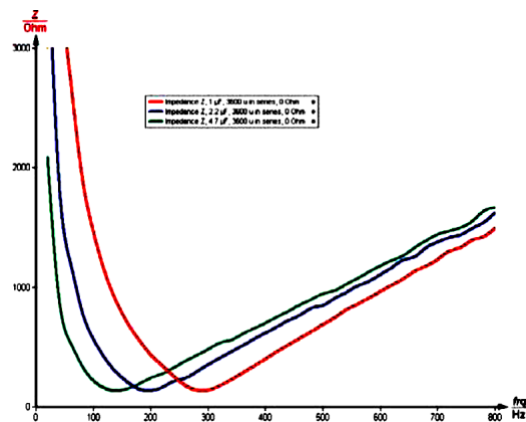

Figure 2.36
- 13) In a similar way produce a plot of the impedance over the frequency for the series tuned circuit with no additional damping resistor and the three capacitance values  $C = 1 \mu F, 2.2 \mu F$  and  $4.7 \mu F$ . Figure 2.36 shows a possible result.